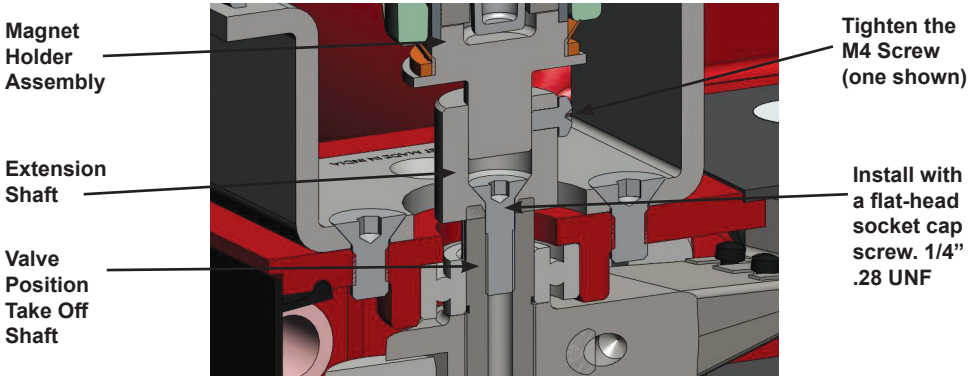

Figure 10 - Extension Shaft to the Valve Position Take-off Shaft
2. Bolt the extension shaft to the valve position take-off shaft (Figure 10).